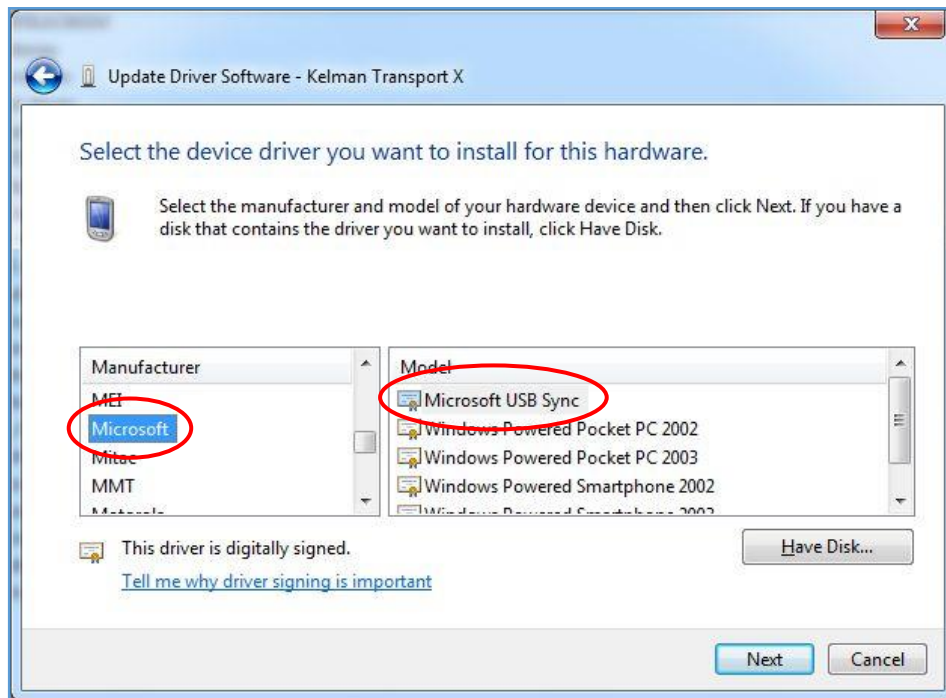

Figure A-14: Select the device driver
- In the Manufacturer column, choose **Microsoft** as shown in Figure A-14.